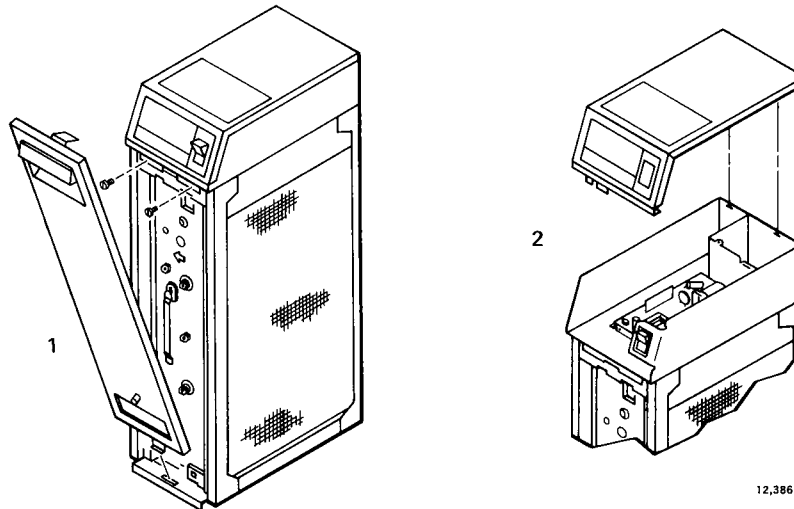

FIG. 35—POWER BOX COVER ON ONE-CELL MODEL IS SECURED BY A SINGLE SCREW.
3. Loosen the screw holding the cover on and remove the cover. See Fig. 35.